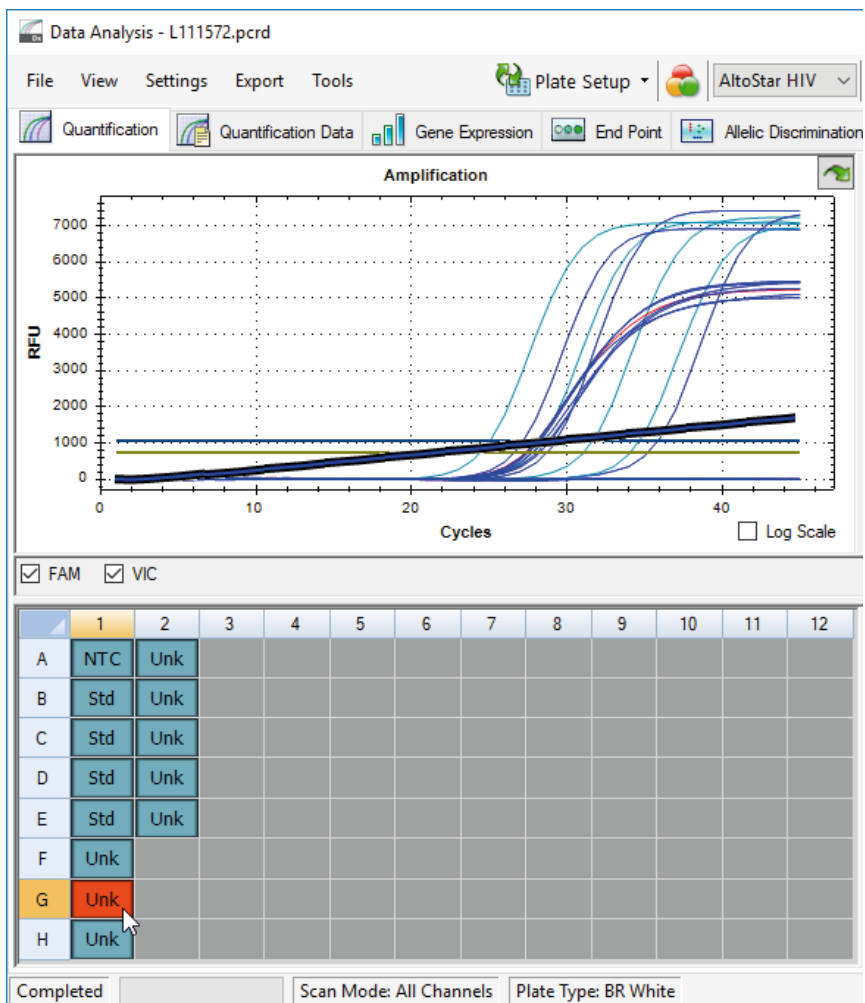

Figure 6: Data Analysis window: irregular PCR signal
- Identify wells with irregular PCR signals (linear signal increase, signal spikes, etc.) in any of the FAM™ (HIV target) and the VIC™ (IC) detection channels (see figure 6).